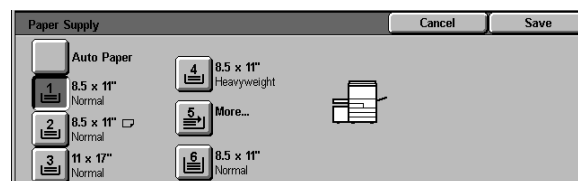

Figure 24: Paper Supply screen
- 1 On the Basic Copying tab under Paper Supply, touch the **More...** button to display the Paper Supply screen, Figure 24.